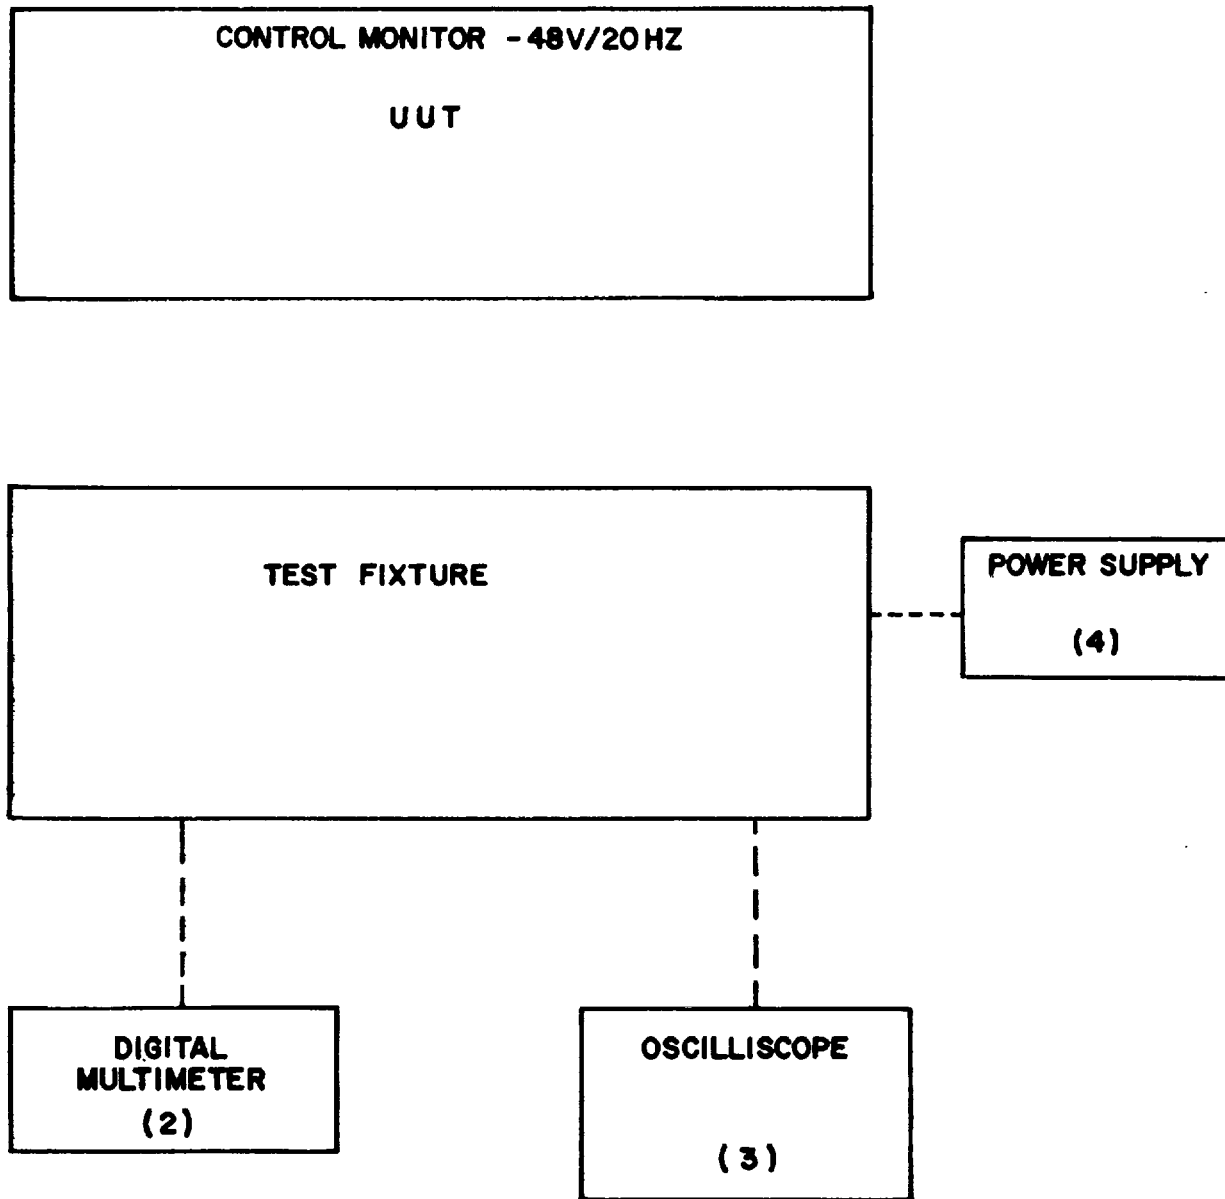

Figure 4-9. Test Setup for Control Monitor -48V/20 Hz Assembly.
e. Connect the UUT to the test fixture as shown in figure 4-9.